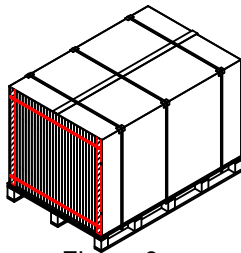

Figure 2
2. 剪断内部横向打包带并取出，然后拿掉纸箱内部的纸角钢，如图2。
Cut and remove the inner transverse security straps around the modules, then remove the paper angles inside the box, as showed in Figure 2.